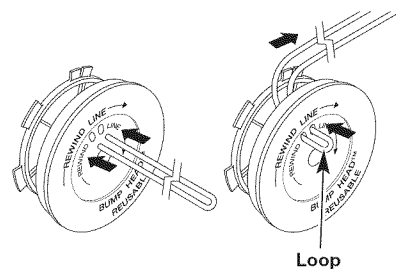

Fig. 17
6. Take approximately 20 feet (6 m) of new trimming line, loop it into two equal lengths. Insert each end of the line through one of the two holes in the inner reel (Fig. 17). Pull the line through the inner reel so that the loop is as small as possible.
The idle speed of the engine is adjustable. An idle adjustment screw is between the air filter cover and the engine starter housing (Fig. 17).
- Release the throttle trigger and let the engine idle. If the engine stops, insert a small phillips screwdriver into the idle adjustment screw (Fig. 17). Turn the idle speed screw clockwise 1/8 of a turn at a time (as needed) until the engine idles smoothly.